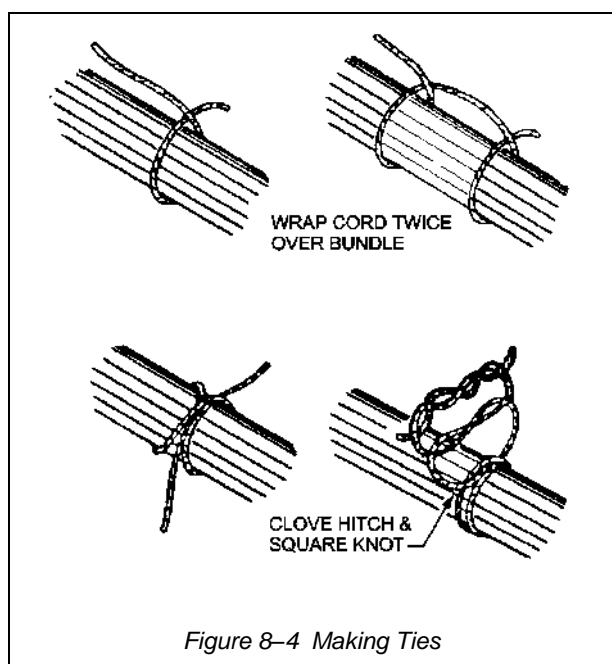

Figure 8-4 Making Ties
- a. Wrap cord around wire group or bundle, as shown in Figure 8-4.